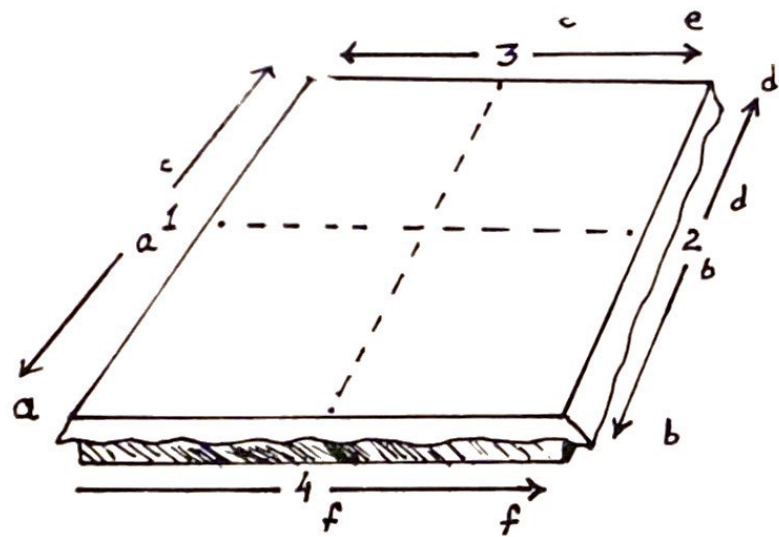

Fig. 3
- 3) In the centre on the longer side of the frame the mesh should be nailed or stapled at point 1. On the exact opposite side also in the centre, the mesh should be pulled tight and nailed at point 2. Weft/warp should be as straight as possible. This should be repeated on the 3rd and 4th side. (see fig 3).
4) Starting from the first nail or tack at the centre at point 1, start nailing down the fabric working outwards to one edge. At the same time the opposite side should also be stretched and nailed, so that two opposite sides are being nailed at the same time at a,a,b,b, and so on. Ensure that the pull across should follow a thread, so that the weft/warp are at right angles. (see fig.3).